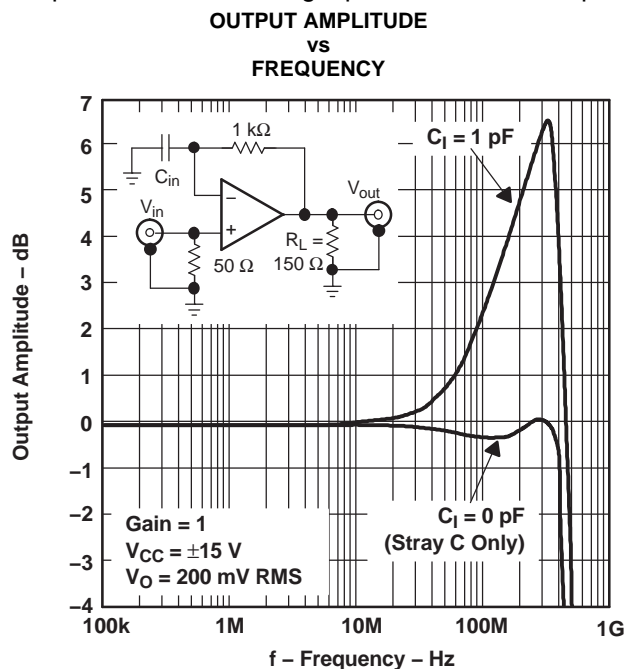
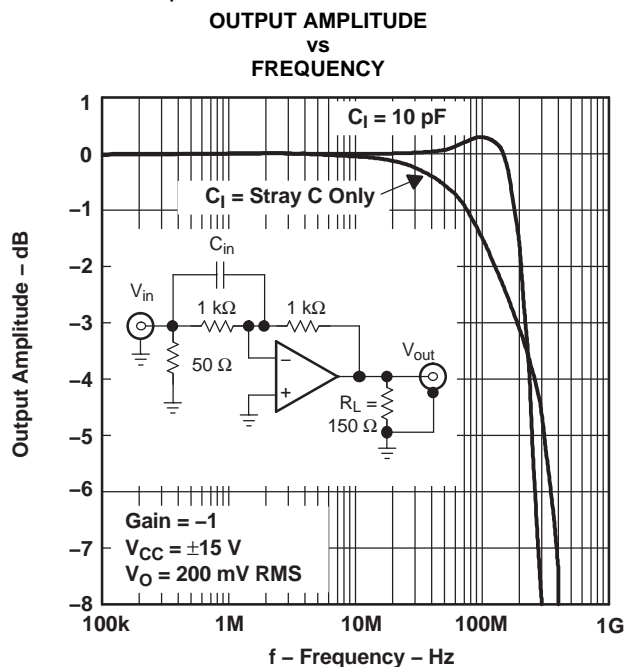

Figure 53.
Figure 54.
- Input stray capacitance - To minimize potential problems with amplifier oscillation, the capacitance at the inverting input of the amplifiers must be kept to a minimum. To do this, PCB trace runs to the inverting input must be as short as possible, the ground plane must be removed under any etch runs connected to the inverting input, and external components should be placed as close as possible to the inverting input. This is especially true in the noninverting configuration. An example of this can be seen in Figure 53, which shows what happens when a 1-pF capacitor is added to the inverting input terminal. The bandwidth increases at the expense of peaking. This is because some of the error current is flowing through the stray capacitor instead of the inverting node of the amplifier. Although, while the device is in the inverting mode, stray capacitance at the inverting input has a minimal effect. This is because the inverting node is at a *virtual ground* and the voltage does not fluctuate nearly as much as in the noninverting configuration. This can be seen in Figure 54, where a 10-pF capacitor adds only 0.35 dB of peaking. In general, as the gain of the system increases, the output peaking due to this capacitor decreases. While this can initially look like a faster and better system, overshoot and ringing are more likely to occur under fast transient conditions. So proper analysis of adding a capacitor to the inverting input node should be performed for stable operation.